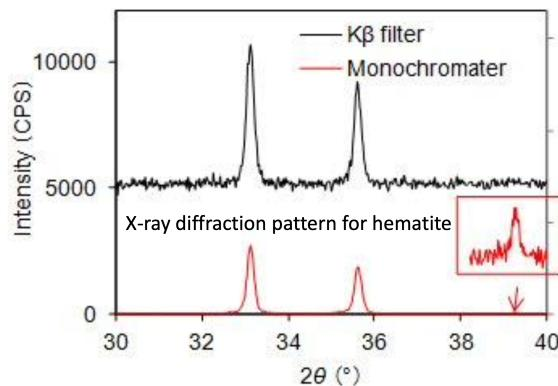

Figure 1.14: Filters vs. monochromators.
- Notice the extra noise in the spectrum taken with a K_{β} filter in Figure 1.14.